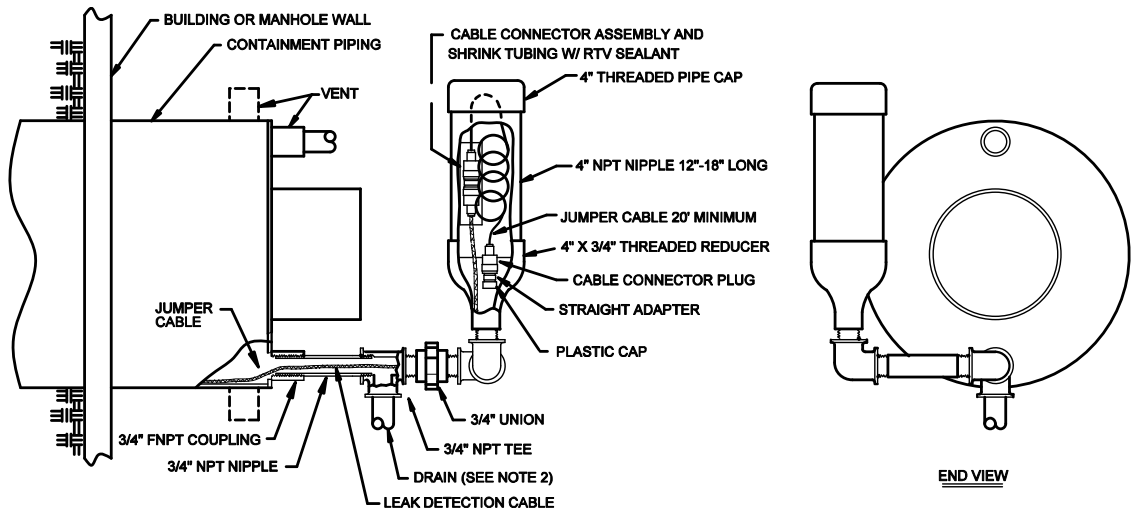

Figure 5-4
16. At least 50' [15 m] of jumper cable must be installed from the PAL-AT panel before connection to sensor cable. Refer to table 1 (see section 3) for jumper installed at the very end of a sensing string in an enclosure (see figure 5-4). A cable connector must be attached to terminate the end of the jumper cable. Install the red plastic cap supplied with the PAL-AT, over the connector to keep it clean. The termination of the sensing string should be accessible for future maintenance.